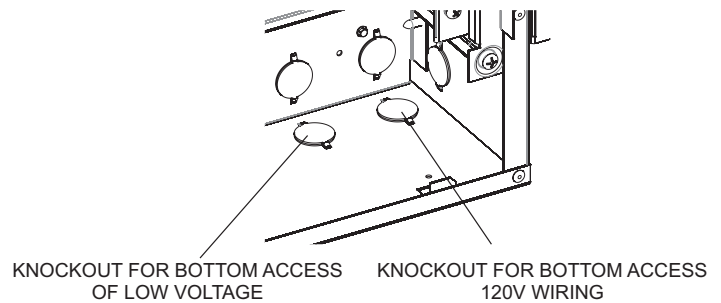

Figure 44
9. Using back and forth action, open the knockouts required for installation. Leave other knockouts closed. **See Figures 44 and 45.**